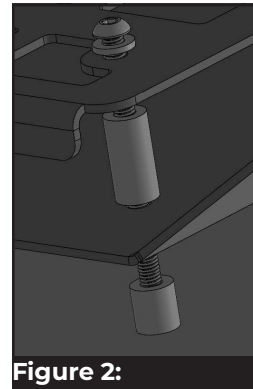

Figure 2:
- 3 Carefully align and thread the bolts from the previous step into the pre-existing holes in the tailgate (figure 2).